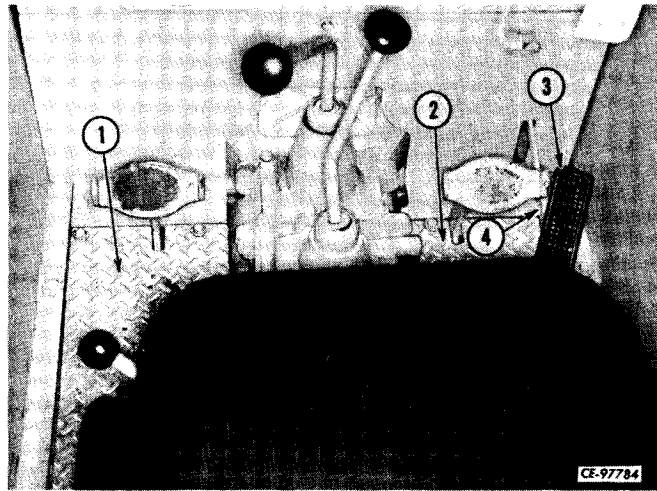

Figure 2-13
From inside the operator's compartment disconnect accelerator pedal (3, Fig. 2-13) by removing cap screws and lock washers (4).
Position floor panels (1, 2, Fig. 2-13) and install and tighten cap screws and lock washer. Connect accelerator pedal (3) to linkage (4).